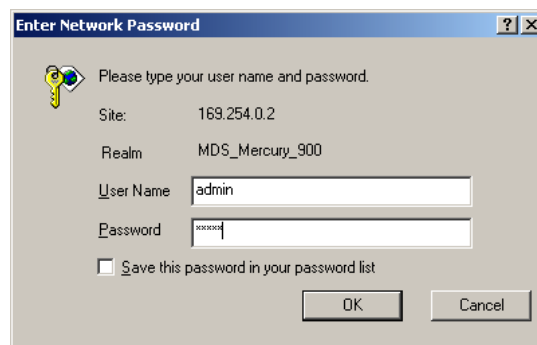

Figure 3-7. Log-in Screen when using a Web Browser
4. A log-in screen is displayed (Figure 3-7) where you enter a user name and password to access the unit's menu system. Note that the default entries are made in *lower case*. (Default User Name: **admin**; Default Password: **admin**)